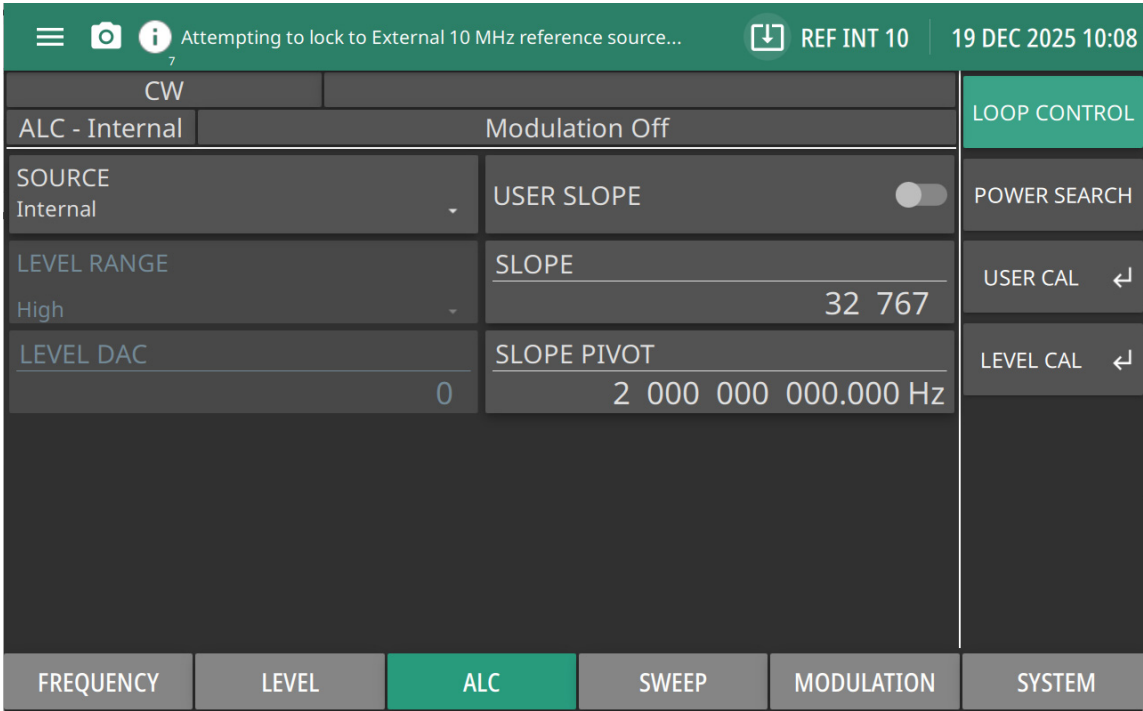

Figure 3-35. ALC Menu
- 4. Press **ALC** menu and select **Internal** from the **SOURCE** drop-down to place the MG362x1A in internal leveling mode. See Figure 3-35.